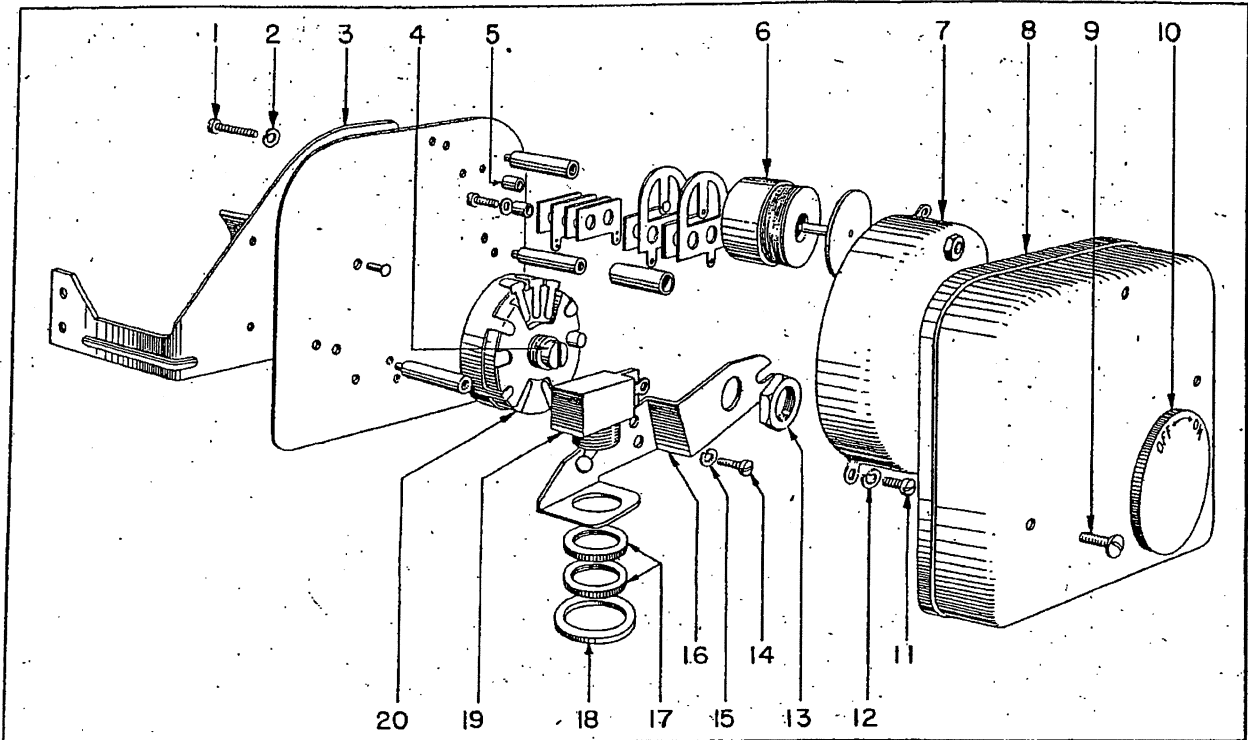

Figure 20—Timer Assembly
r. **TIMER ASSEMBLY.** (See figure 20.)—Remove three binding head screws (9) and take off the timer cover assembly (8). Then remove two fillister-head screws (14) and lock washers (15) to release the rheostat and switch assembly. The toggle switch (19) is removed from the switch mounting bracket by taking off the dust seal washer (18) and unscrewing the retaining nuts (17). The rheostat (20) is removed by unscrewing its retaining nut. The timer (7) is removed by unscrewing the two fillister-head screws (11) and lock washers (12). Then relay assembly (6) is removed by unscrewing the two fillister-head screws (1) and lock washers (2) and relay spacers (5). Unsolder wiring as required.
b. TIMER ASSEMBLY. (See figure 20.)—Through the back of the timer mounting plate (3) insert the two fillister-head screws (1) with lock washers (2); add the two relay spacers (5) and attach the relay assembly (6). Attach the timer (7) with two fillister-head screws (11) and two lock washers (12). To the switch mounting bracket (16) attach the rheostat (20) with its retaining nut (13). Also attach the toggle switch (19) to the switch mounting bracket (16) with its retaining nuts (17) and add dust seal washer (18). Then fasten the switch mounting bracket (16) to the timer mounting plate (3) with two fillister-head screws (14) and two lock washers (15). Resolder wiring according to wiring diagram. (See figure 14.) When replacing the timer
cover assembly (8, figure 20) rotate the rheostat adjusting knob (10) until it seats in the slot in the rheostat shaft (4) before replacing the binding head screws (9) and tightening them.
KEY TO FIGURE 20